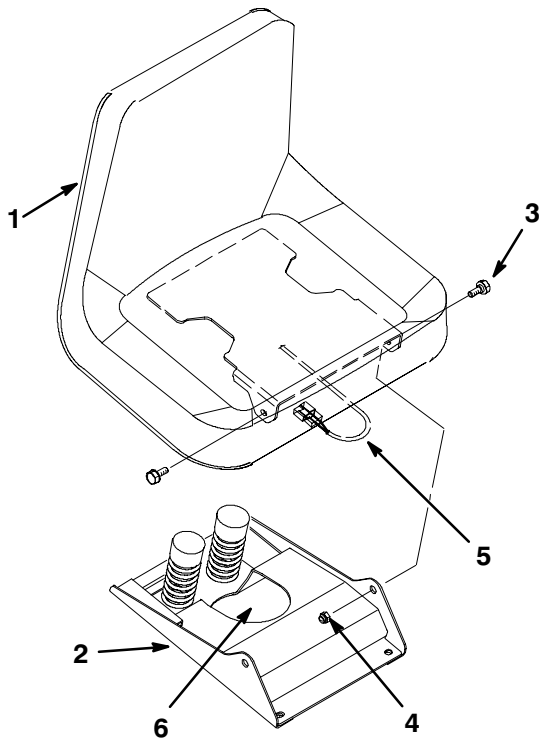

**Figure 6**
17. After servicing the battery, replace the front grill of the tractor and secure the grill with two #8 x .50" long grill screws and .75" O.D. grill washers in the upper two grill mounting holes (Fig. 6).